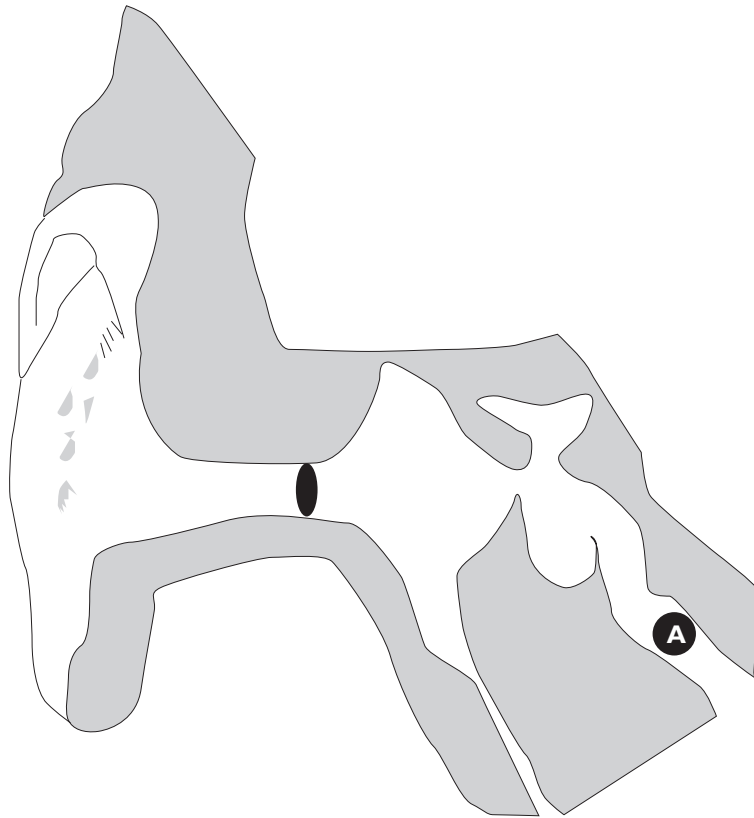

Figure 138.1 Anatomy of the ear
2. Redraw Figure 138.1 in your note book and mark in the following features:
3. The tube labelled A in Figure 138.1, is connected to what part of the head?